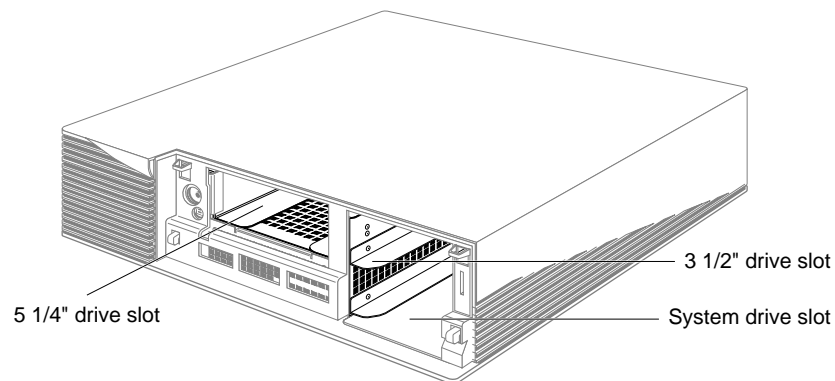

Figure 5-2 Locating the Drive Slots in the Front of the Chassis
1. Choose a slot in which to install the drive. The slots are shown in Figure 5-2.